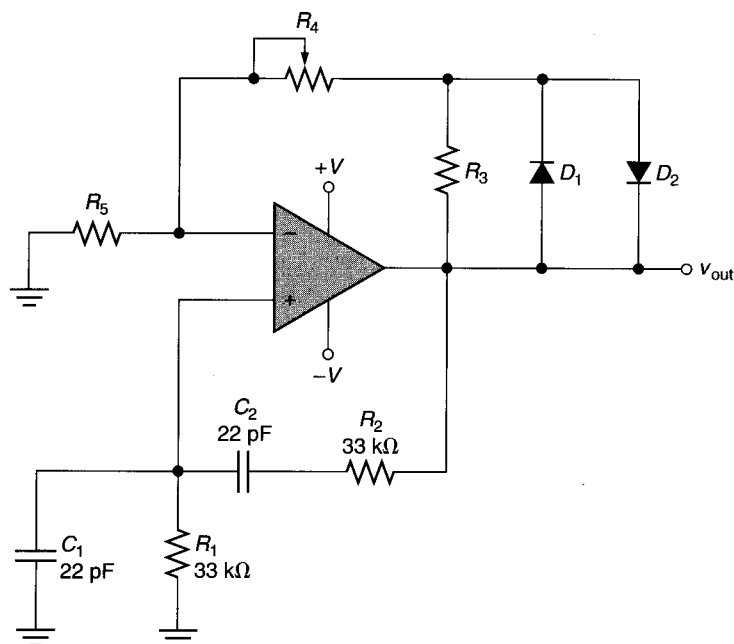

FIGURE 18.24
1. Calculate the operating frequency of the circuit shown in Figure 18.24.